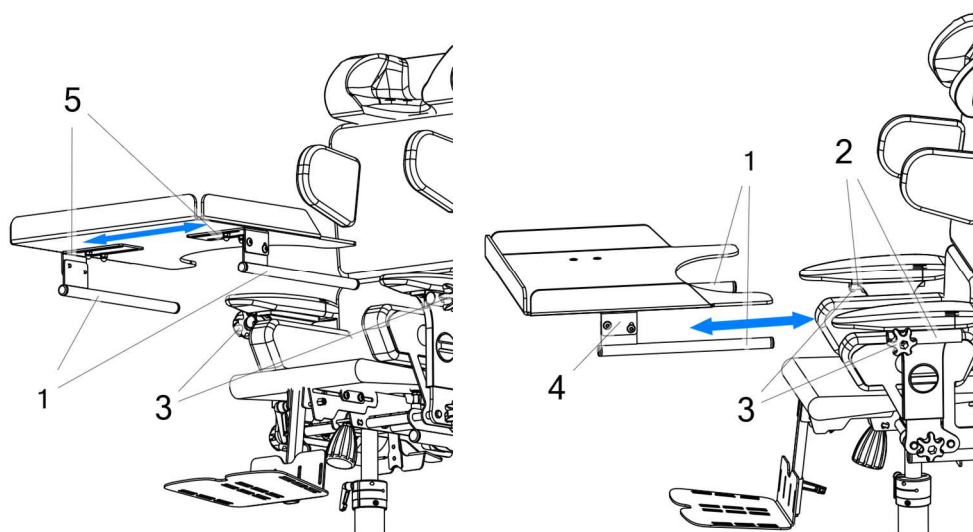

Fig. 9
To adjust the spacing of the tray handles (1) Fig. 9 to the spacing of the tray sockets (2) located in the armrests, loosen the bolts (5), which can be found on the tray handles under the tray top. Join or draw the handles apart adjusting them to the spacing of the sockets and tighten the tray handles screws.